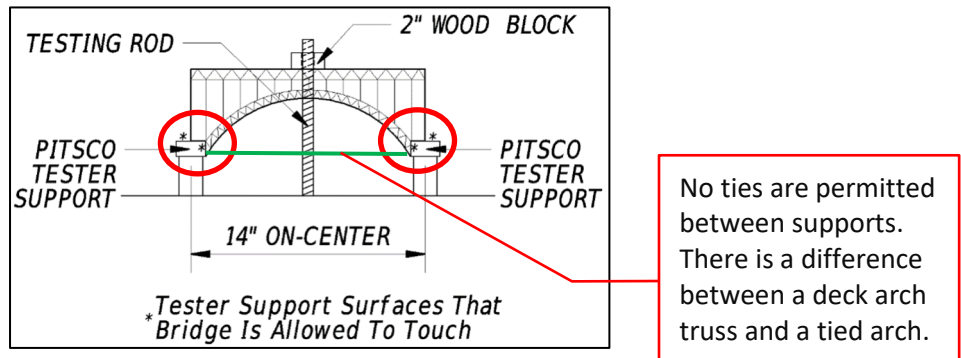

Figure 10. Support Detail
- i) The bridge is allowed to touch the tester support surfaces ONLY where shown by the "\*" in Figure 10. Bridges are not allowed to touch any portion of the tester not denoted by "\*" in Figure 10. **It is recommended, but not required, to utilize both the horizontal and vertical support surfaces (denoted by "\*\*") for strength advantages.**